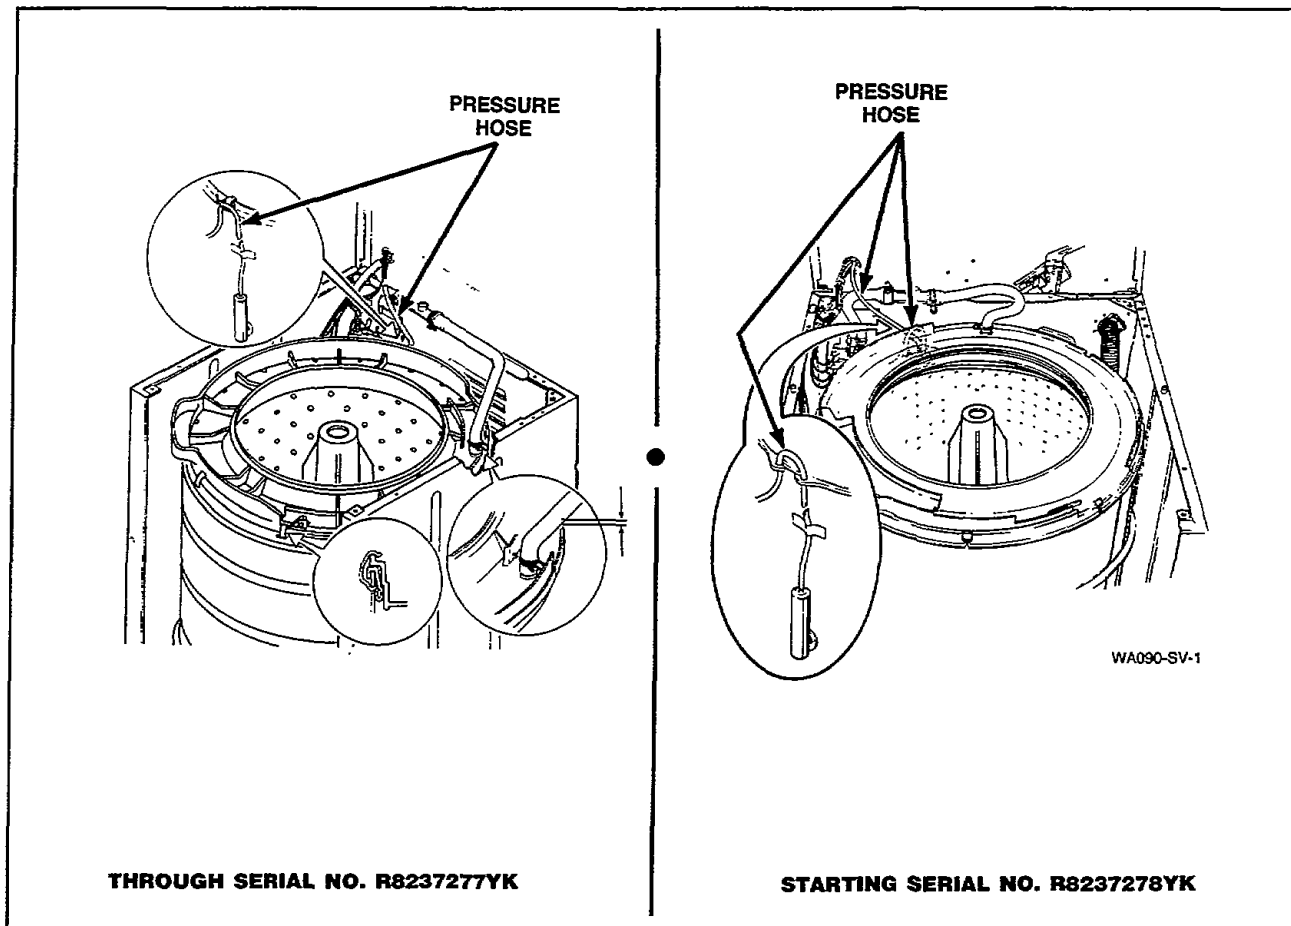

Figure 52
- i. Route the pressure hose as shown in *Figure 52*. Then route the pressure hose back up through the hole in the cabinet top.